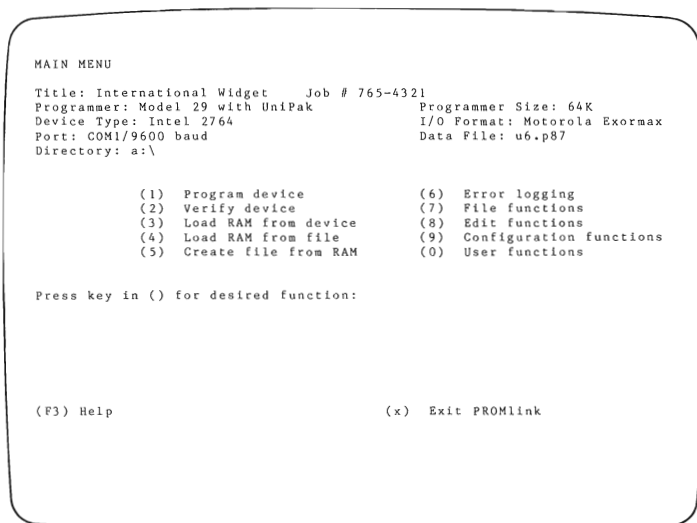

Figure 3-2. Main Menu
Most of the PROMlink screens and menus present the system status and a menu. PROMlink prompts you for a response to perform an operation or select another menu. Figure 3-2 shows a sample menu and the components of it. The system status area appears across the top of the display. Messages and prompts appear below the status area of the display.
When you first start PROMlink, the set of internal system status values shown in figure 3-2 is displayed. PROMlink accesses these values from a "Configuration File" called *INIT.CFN* that is on the PROMlink disk. You may create your own configuration file by using the *Save Configuration (0)* command from the *Configuration Functions* menu. The new configuration can then be reloaded at a later time with the *Load Configuration (9)* command from the *Configuration Functions* menu. This allows you to set up programming sessions quickly. If you name your configuration file *INIT.CFN* then PROMlink will automatically load that configuration at start up.
*If this file has been erased or for any other reason does not exist, the PROMlink program uses its own internal set of status values. INIT.CFN default values are shown in figure 3-2. The contents of INIT.CFN and all configuration files are described in appendix B.1.*